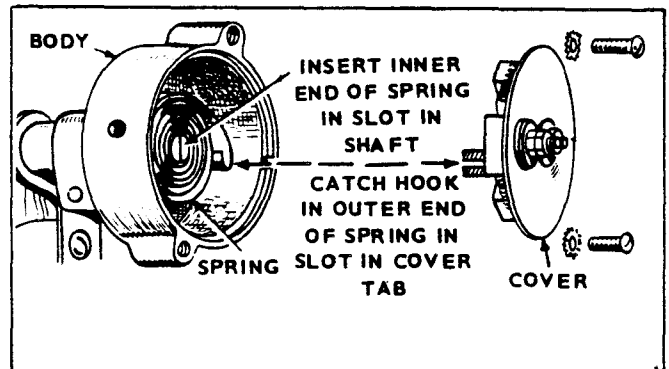

Figure 7. Automatic Electric Choke
Remote starting plants use an automatic electric choke (Fig. 7), manual starting plants use a hand choke. An electric element controls the automatic electric choke. Before the plant starts, the choke is partially closed. When the plant has started, the generator supplies current to the heating element which heats the bi-metal coil, opening the choke plate.
**Disassembly and Repair:** If the choke does not operate, or will not maintain its adjustment, disassemble it for repair. If it will not close, check for binding, incorrect assembly. If it will not open after plant starts, check for heating. The choke should be warm to the touch within a minute or two of plant starting. To disassemble choke, refer to Fig. 7.
**Assembly (Fig. 7):** When assembling electric choke, be sure the fork in the plate straddles and holds the outer end of the coil and that the spring winds in a clockwise direction from center.